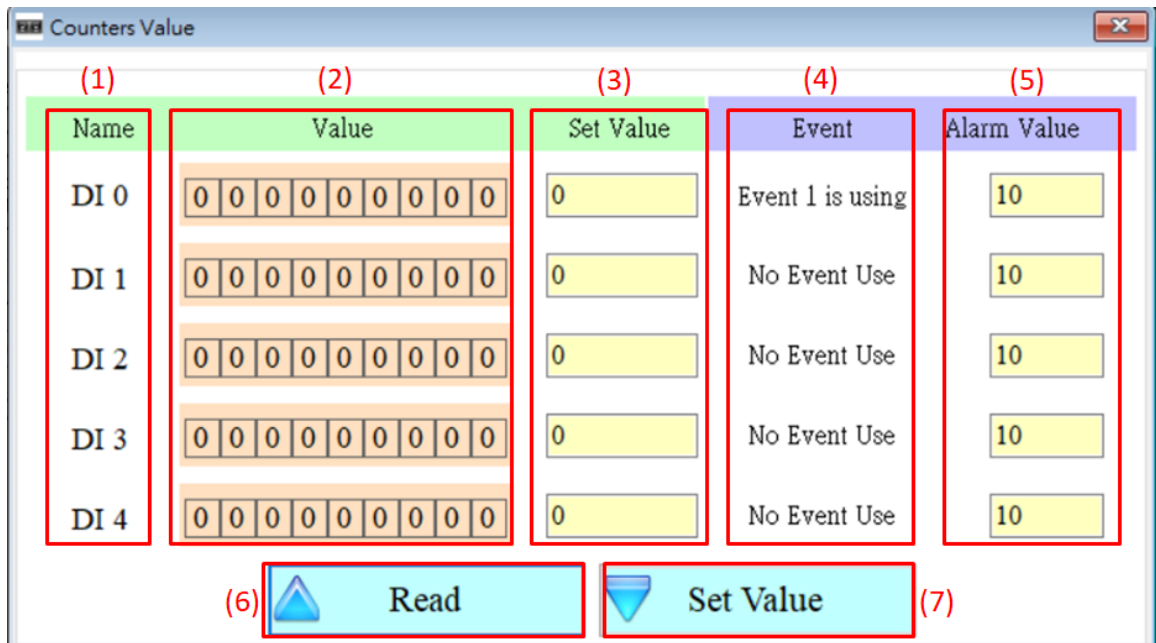

Figure 6.1.5
- D. Set the counter parameters, as shown in Figure 6.1.5
- (1) Counter name, Counter0~Counter4 corresponds to DI0~DO4.
- (2) Counter current count value.
- (3) Set the current value of the counter.
- (4) Counter usage status.
- (5) The value of the counter trigger alarm, which must be greater than the value of Set Value by more than 10.
(6) Read the current status of Device Counters.
(7) Write Counters to Device.